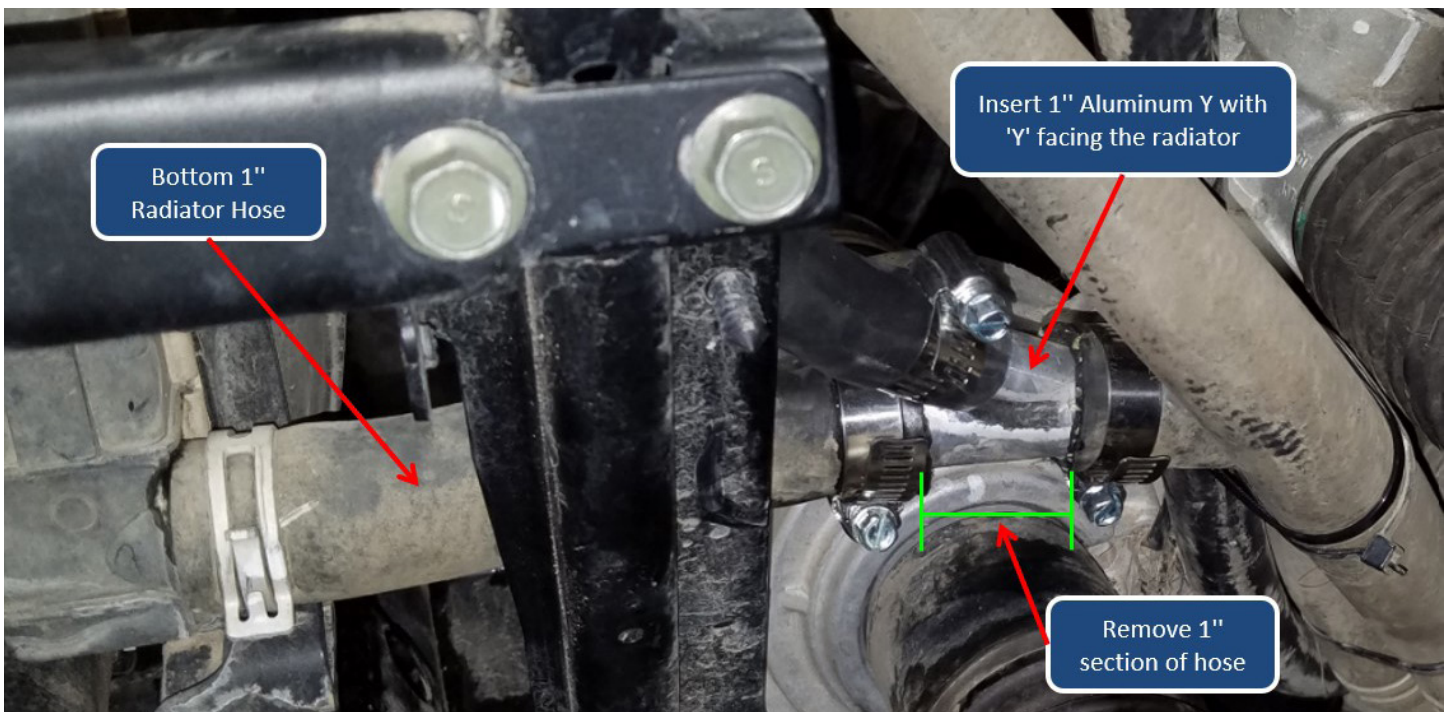

FIGURE 21
53. Move the drain pan to the front of the vehicle and position it under the area shown in **FIGURE 21**. Position the 1" aluminum Y as shown in **FIGURE 21**, mark a 1" section of hose and cut that section of the 1" hose. Discard the 1" section. Insert the aluminum Y with the $\frac{5}{8}$ " port of the aluminum Y facing the radiator. Secure the two ends with the #16 hose clamps. Leave the short $\frac{5}{8}$ " radiator hose disconnected for future use.